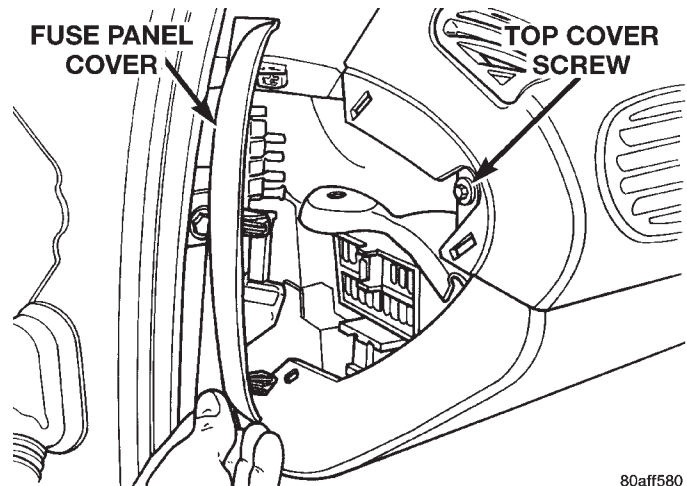

Fig. 19 Instrument Panel Top Cover-Left Side
- (5) Pull cable up and out of the gearshift mechanism.
- (6) Remove fuse panel cover from left end of instrument panel. Remove screw holding end of instrument panel top cover (Fig. 19).